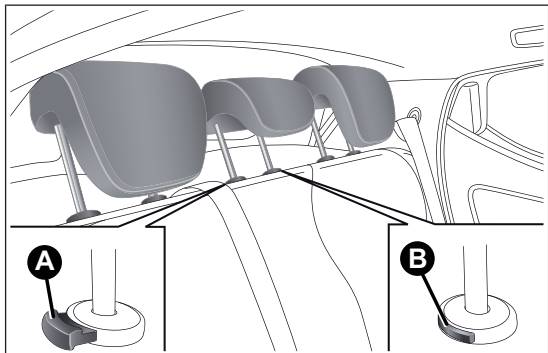

fig. 63
- raise the head restraints to the maximum height, press both buttons A fig. 63 and B to the side of the two supports, then remove the head restraints by sliding them upwards;